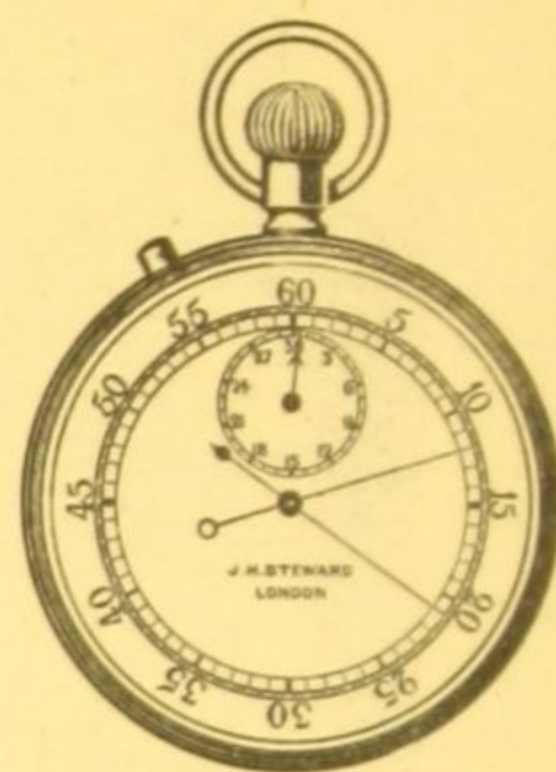

Fig. 124.
- SM 458A.—**Split Seconds Stop Watch** for recording two periods of time. Stopping, starting and fly back actions. The large hands record fifths of seconds up to 60 seconds and the small hand minutes to 30 minutes. Nickel-plated case..... Fig. 124 **£7 10 0**